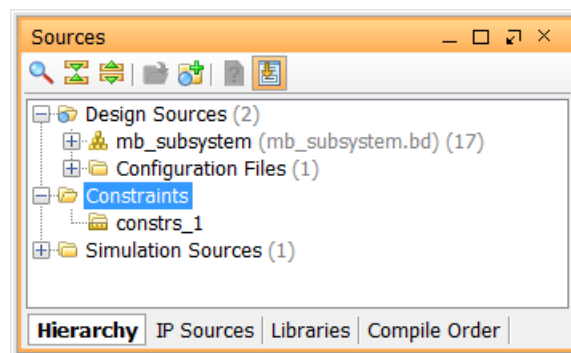

Figure 117: Project Manager
1. In the Sources window, expand the **Constraints** folder (FIGURE 117).